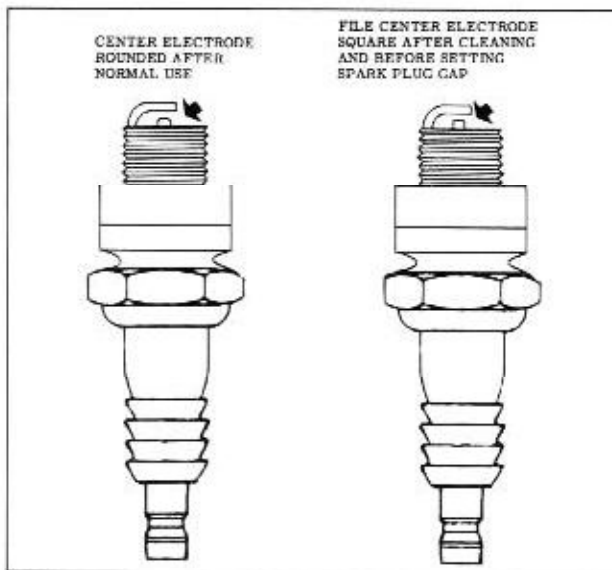

Fig. 9-1 Filing Center Electrode
3. Clean all serviceable plugs with an abrasive type cleaner. File center electrode flat. (Fig. 9-1) Do not file center electrode on new plugs.